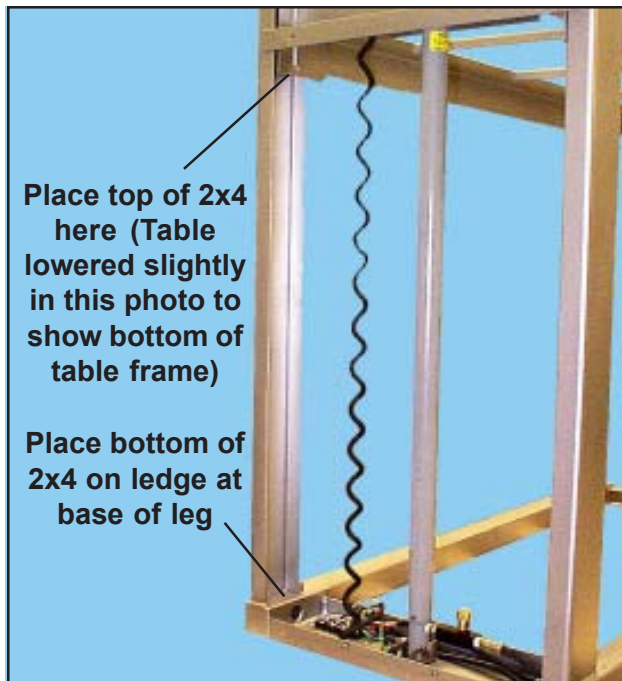

Figure 30. Position of 2x4 on Table
8. Tightly tape two 33.5-in. long 2x4s to the insides of the table legs. Each 2x4 should fit between the ledge at the base of the leg and the bottom of the carriage frame. (Figures 30 and 31). Use any kind of tape as long as it holds the 2x4s firmly in place (electrical tape, fibre tape, duct tape, etc.). **Note:** Do not place the lower ends of the 2x4s in the bottom tray as they can damage internal components or wiring.